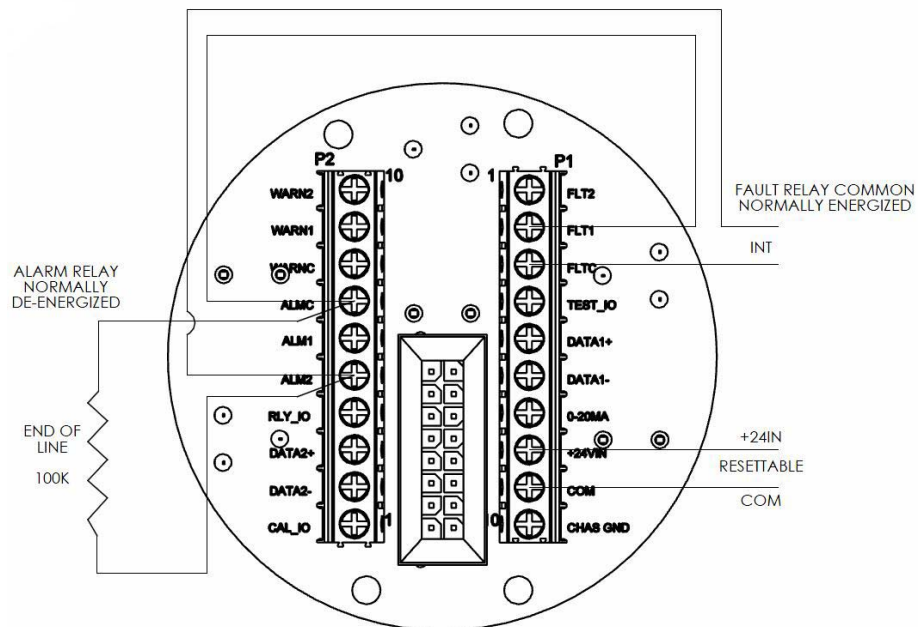

Figure 5: Field Terminations Showing Wiring for Fire Alarm Systems¹
1. Loosen the captive screws (A) located on the Optical Housing Assy.
3. Wire the unit to the site-wiring following the connection diagram shown in Figure 5.